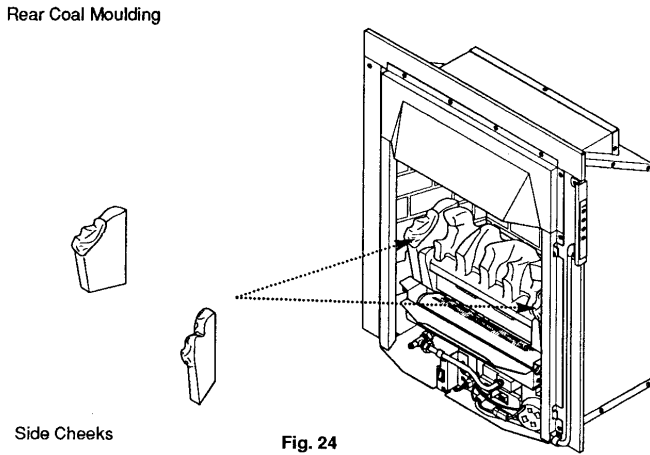

Fig. 24
2. Identify the left and right pieces marked L and R. Position the side cheeks either side of the rear coal moulding with the coal shaped moulding towards the front. The rear face of the cheeks should rest on the rear coal support with the bottom face resting on the pertruding tabs of the rear coal support and the fixing brackets used to hold the burner tray to the sides of the combustion box (Fig. 24).